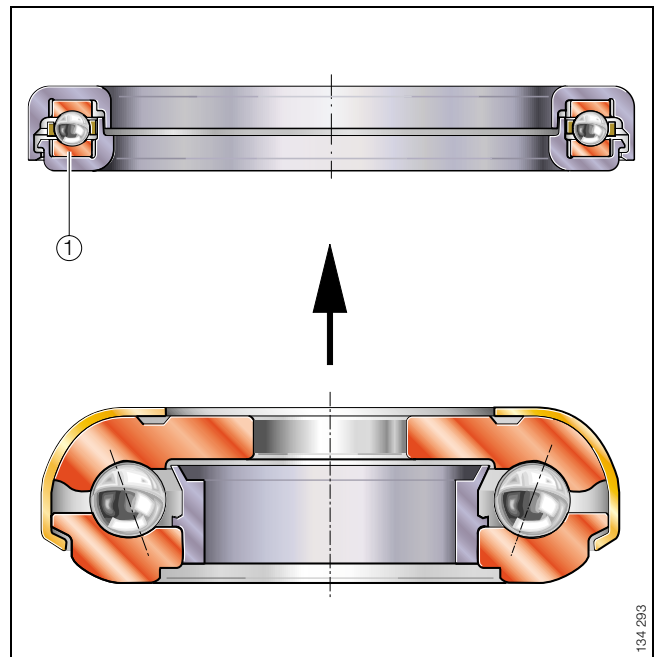

Figure 7 · Design trend
As a result, full-complement bearings with small pitch diameter are being replaced by larger cage-guided suspension strut bearings (Figure 7, ①).